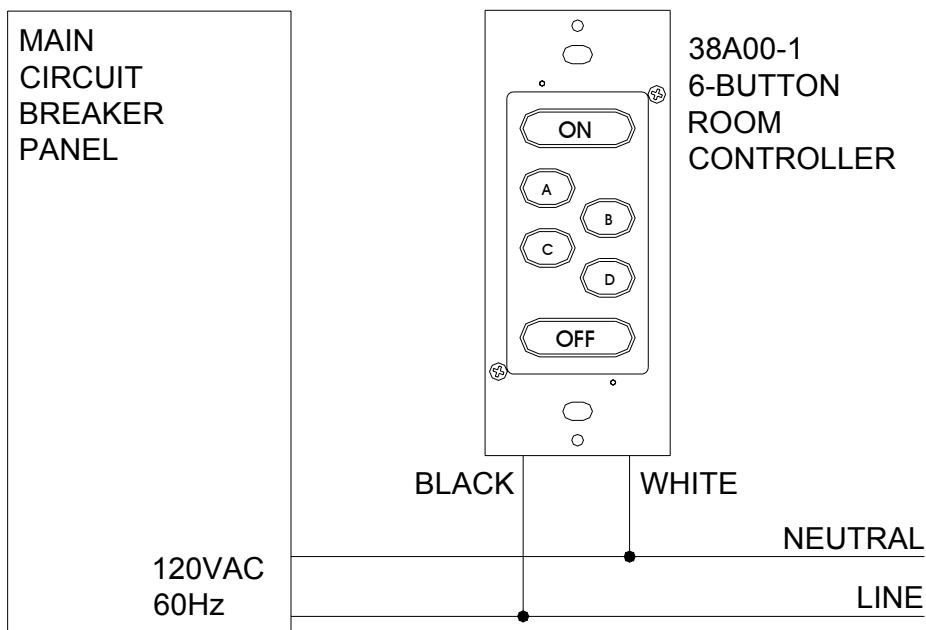

Figure 3 – Wiring Diagram
3. Remove  $\frac{3}{4}$ " of insulation from each of the wires on the HAI UPB™ 6-Button Room Controller. Install the HAI UPB™ 6-Button Room Controller by connecting wires per wiring configuration shown in Figure 3.